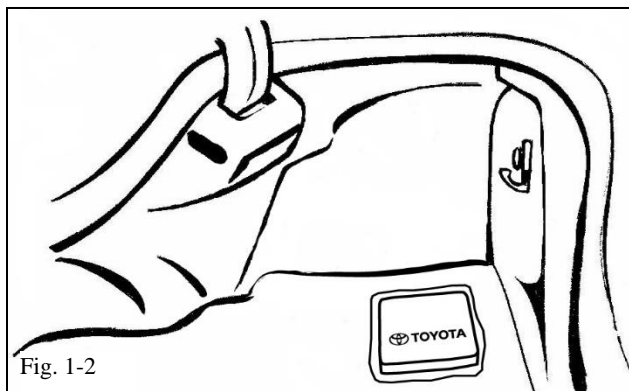

Fig. 1-2
- (2) If there is no storage under the deck board, place First Aid Kit in the right rear corner of the trunk/cargo area of the vehicle (Fig. 1-2).